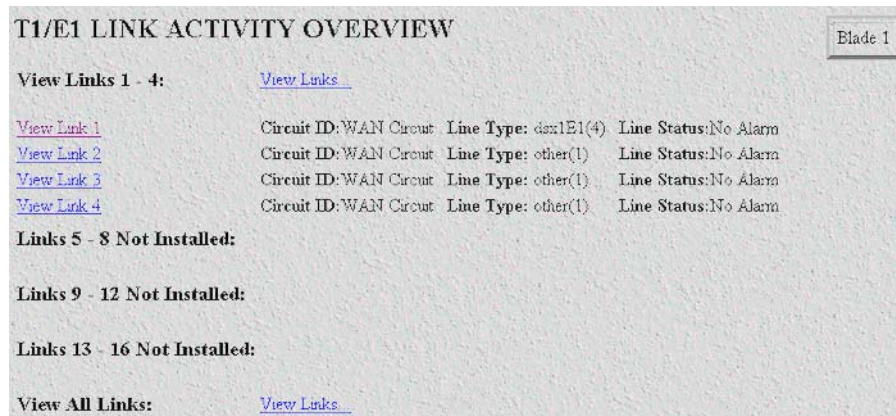

Figure 41. T1/E1 Link Activity Overview page
1. On the *3196RC Configuration Menu*, click the *T1/E1 Link* hyperlink to open the **T1/E1 LINK ACTIVITY OVERVIEW** page (figure 41).